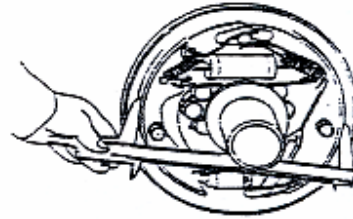

Figure 2-29
(10) Connect the brake pipelines with the wheel cylinders.
(11) Measure the inner diameter of brake drum and outer diameter of brake shoe, and then use the regulator to set the difference between inner diameter of brake drum and outer diameter of brake shoe at 0.3mm-0.5mm. See figure 2-29